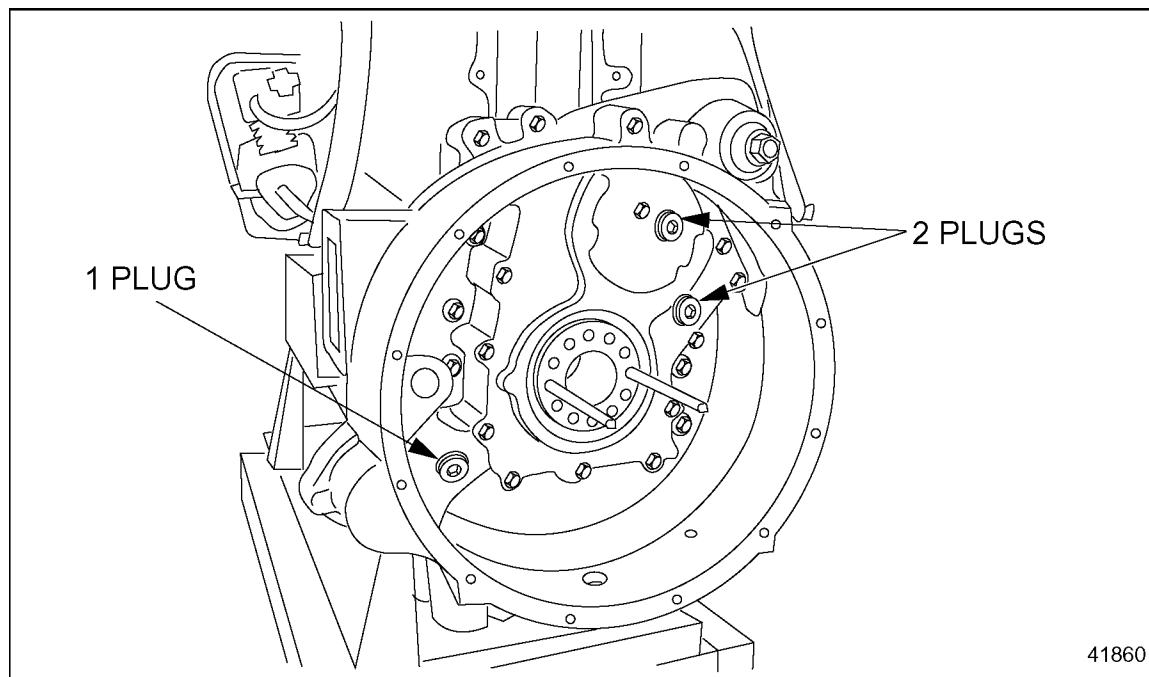

Figure 9-3 Pipe Plugs on the Gear Set Cover Plate
6. Remove three plugs to gain access to bolts securing the housing to the block. See Figure 9-3